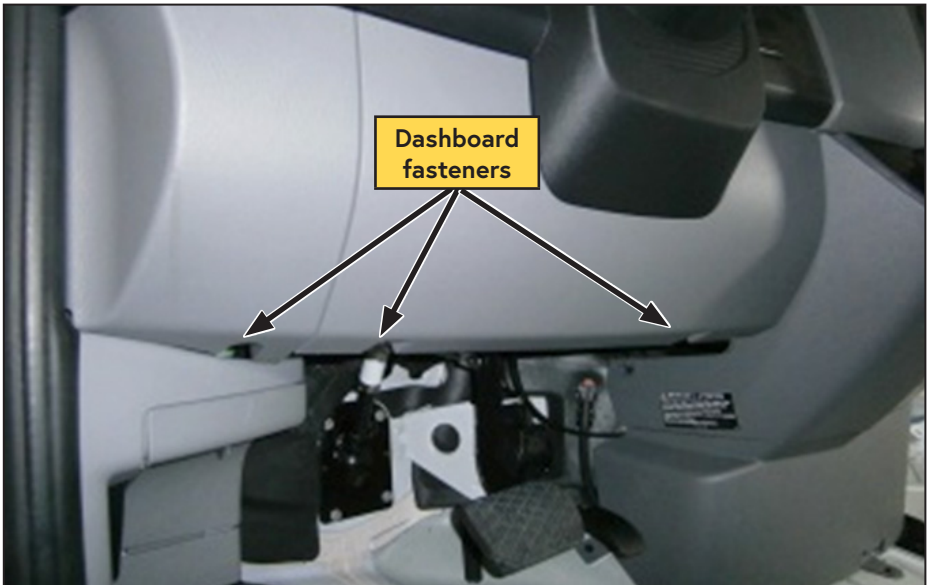

Figure 46 — Remove lower dashboard panels
- Remove the driver side lower dashboard panels (Figure 46).